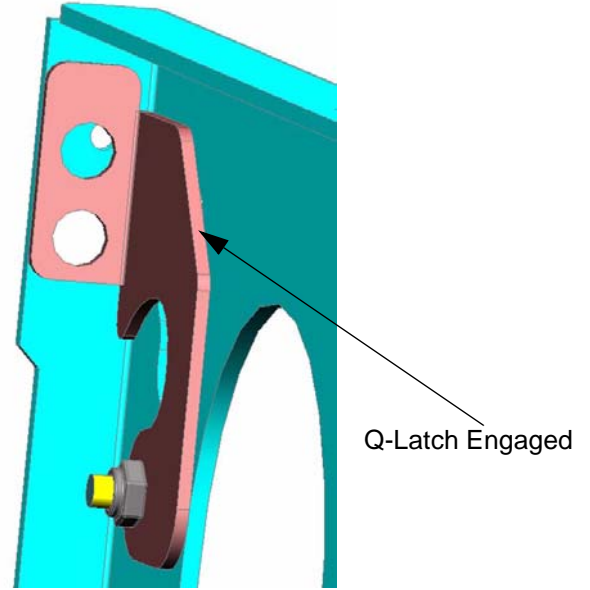

Figure 8. Engage Q-Latch
4. With the Q-Latches of the display fully engaged in the slots of the TPP, secure the display on the TPP by raising the flag all the way up to the locked position (see Figure 8). *If the flag does not fully engage, remove the display and make sure the brackets are correctly installed.*